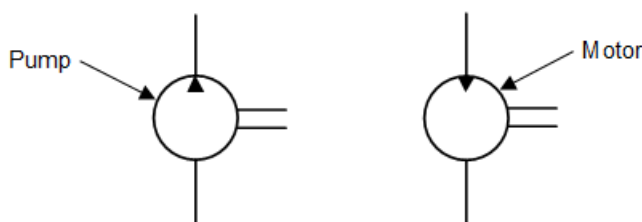

FIG 5.
D. Hydraulic motors are represented by means of a circle which shows where the drive or output shaft is located. Triangles within the circle give information about the direction of flow. These triangles are filled in, since hydraulic oil are used for hydraulics. If a gaseous pressure medium were being used, as is the case in pneumatics, the triangles would not be filled in. The symbols for hydraulic motors and hydraulic pumps can only be distinguished from one another by the fact that the arrows indicating the direction of flow are drawn pointing one way for the pumps and the other for the motors. See Fig 5.